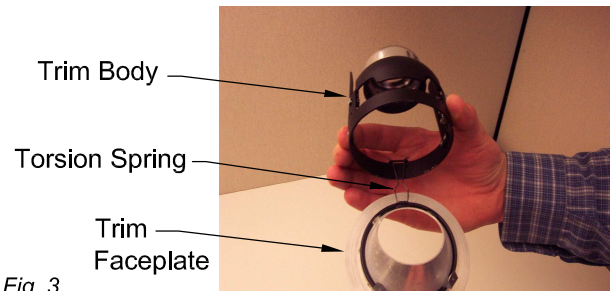

Fig.1
2. Remove TRIM FACEPLATE from TRIM BODY by compressing TORSION SPRING. *Fig. 1*